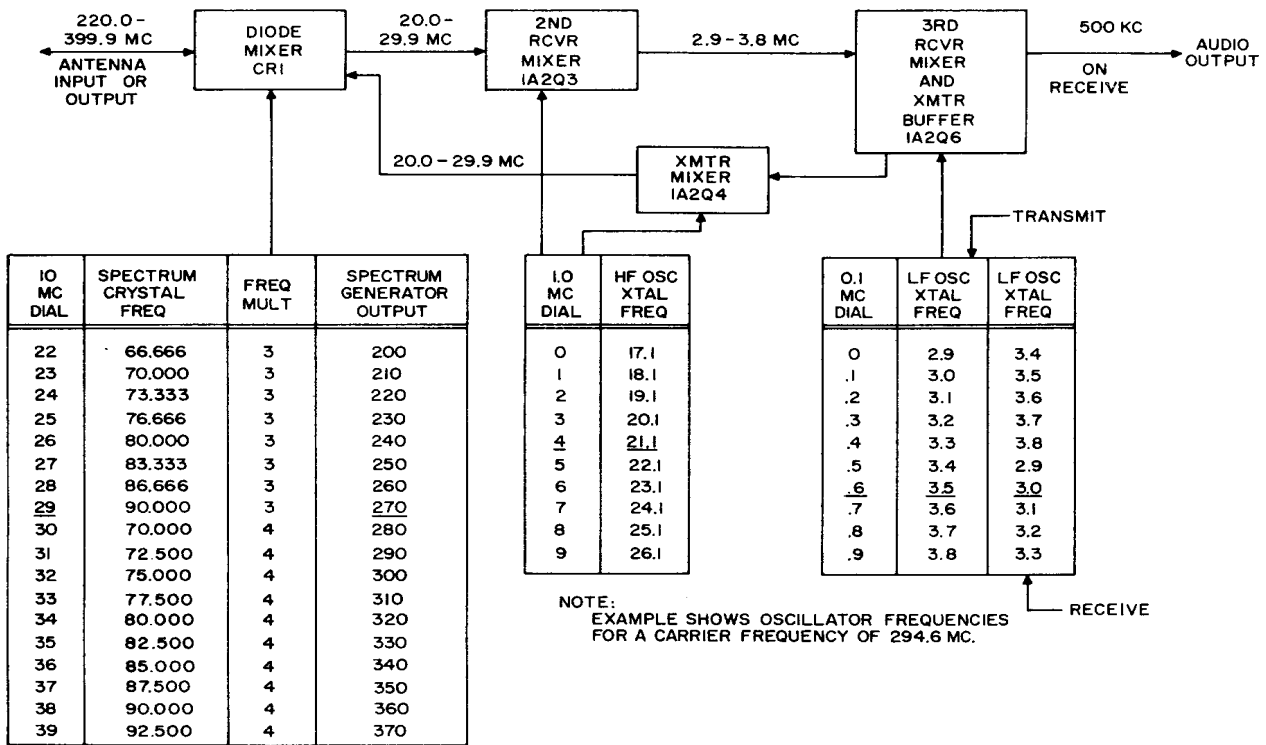

Figure 4-11. Main Receiver and Transmitter Functional Section, Frequency Scheme
oscillators. The first injection signal, 200 to 370 mc, is obtained from the spectrum generator module, while the second (17.1 to 26.1 mc) and third (2.9 to 3.8 mc) injection signals are obtained from high and low-, respectively, frequency oscillator stages in the 1st and 2nd i-f amplifier module. Figure 4-11 lists the three injection frequencies for each frequency in the operating range of the RT-695/PRC-41. In receive operation, signals in the 225.0- to 399.9-mc range are
(3) I- F FREQUENCY CALCULATION.
- The following procedure may be used to find the three injection frequencies from the final transmit or receive operation frequency. Refer to figure 4-11.